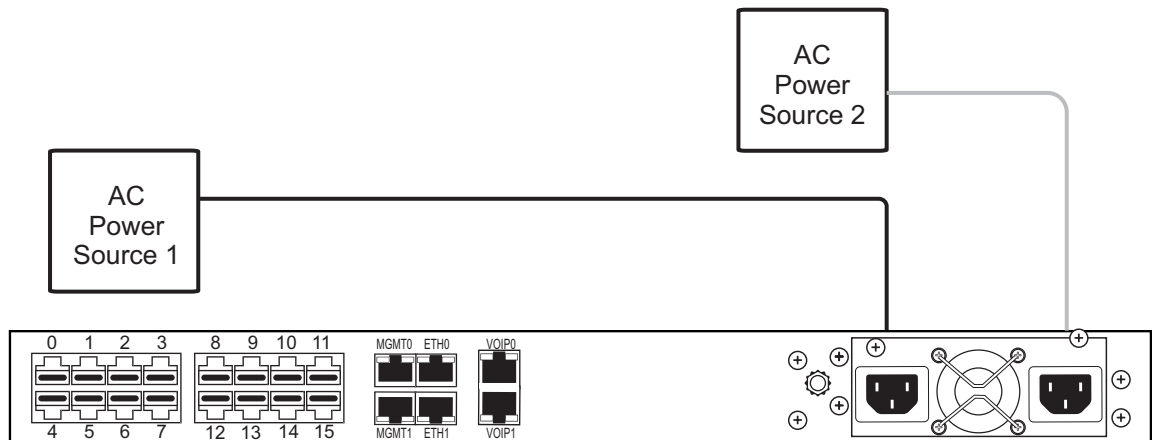

Figure 2.6 AC Power Connection
1. Connect an AC power cable to each AC connector of the TSBC5000 series and an AC supply. See figure 2.6 on page 18.